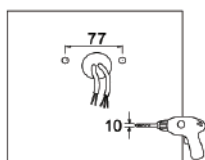

Figure 18
Step 1: Drill holes on the wall as shown. (Figure 18)